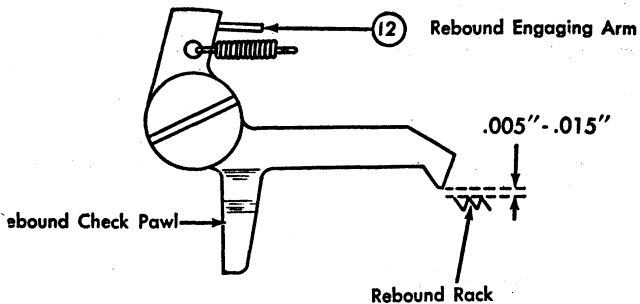

Figure 6. Rebound Adjustment
12. **THE REBOUND ENGAGING ARM** on the right end of the interposer guide assembly is to be adjusted by means of its elongated holes so that, with the margin lever held to the extreme left, the rebound check pawl will clear the rack by $.005''$ to $.015''$ (Figure 6).